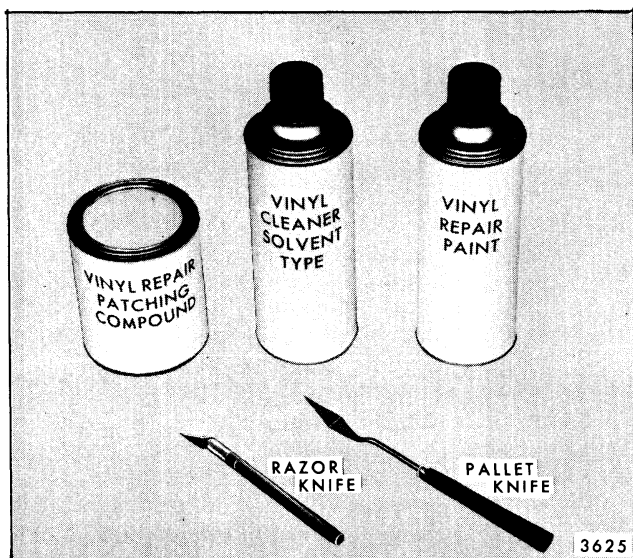

Fig. 8-32-Fabric Roof Cover Repair Materials and Tools
2. Pallet knife - A small trowel used for applying vinyl repair patching compound (Fig. 8-32).
3. Razor or Sharp Knife - to be used for removing frayed edges from damaged area prior to application of vinyl patching compound (Fig. 8-32).
5. Vinyl Cleaner (Solvent Type) - for removal of wax, silicone, oil, etc. from repair area prior to paint application (Fig. 8-32).
6. Vinyl Repair Patching Compound - a heat curing milky colored heavy bodied plastisol for repairing cut, torn, scuffed or gouged vinyl roof cover material (Fig. 8-32).
3. Vinyl Cleaner (Solvent Type) - for removal of wax, silicone, oil, etc. from repair area (see Fig. 8-32).
4. Vinyl Repair Patching Compound - a heat curing milky colored heavy-bodied plastisol for repairing damaged area (see Fig. 8-32).
5. Vinyl Repair Paint - an approved, durable, water proof, weather resistant, pliable vinyl paint for final color refinishing (see Fig. 8-32).
6. Pallet Knife - a small trowel for applying patching compound to repair area (see Fig. 8-32).